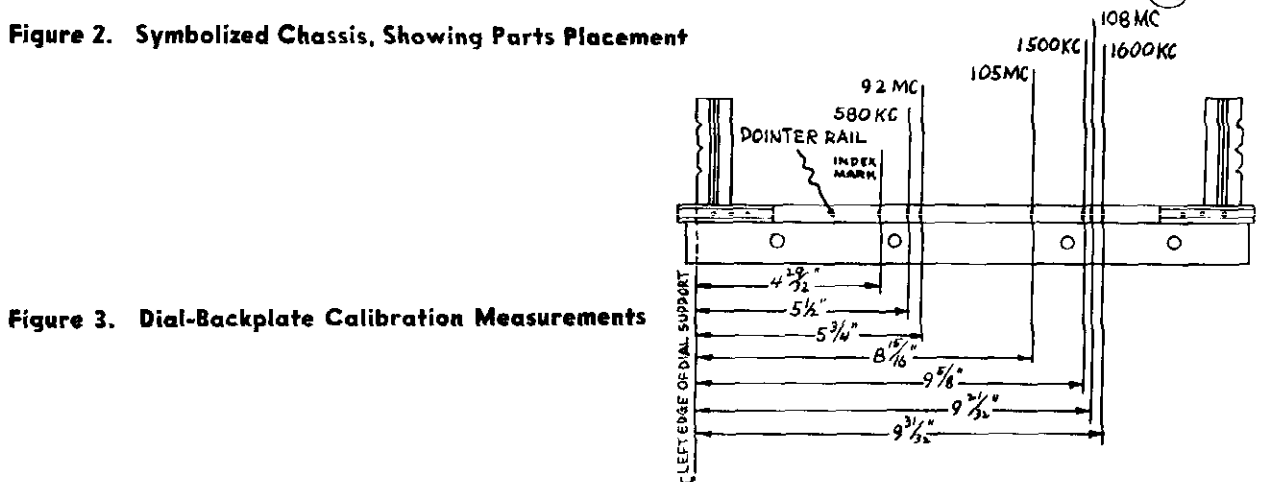

Figure 3. Dial-Backplate Calibration Measurements
**DIAL POINTER:** Calibration and pointer-index measurements are shown in figure 3. With tuning gang fully meshed, set pointer to index mark.